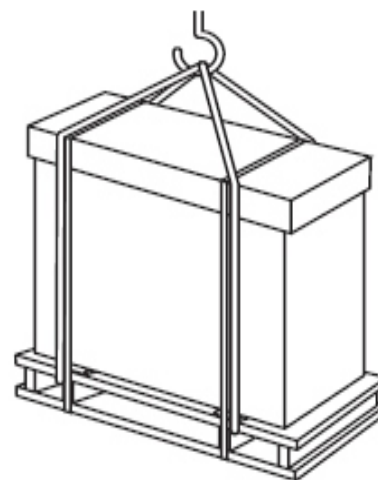

Figure 3.1 Lifting
- (1) Never remove the outer packing. Do not remove any packing materials.
- (2) Lift the unit under packing condition with two (2) ropes, as shown in Fig. 3.1.